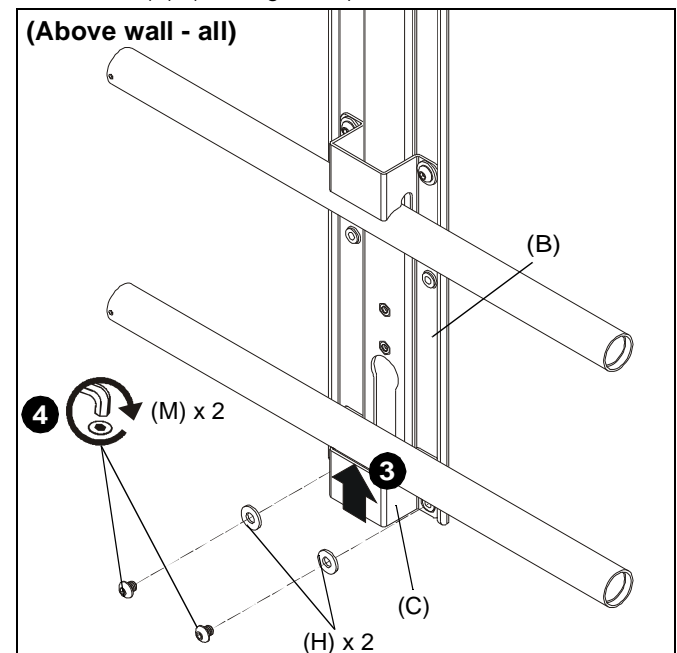

Figure 17
3. Slide second shelf bracket (C) underneath lower rail on wall mount, lining up holes on shelf bracket (C) to holes on main bracket (B). (See Figure 17)
4. Use two 1/4-20 x 1/4" button head cap screws (M) and two large washers (H) to secure shelf bracket (C) to main bracket (B). (See Figure 17)